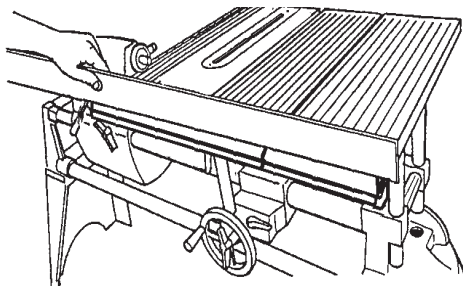

Figure C-62
- 76. Place the straightedge along the infeed-side tops of both the worktable and extension table tubes, as shown in Figure C-62.